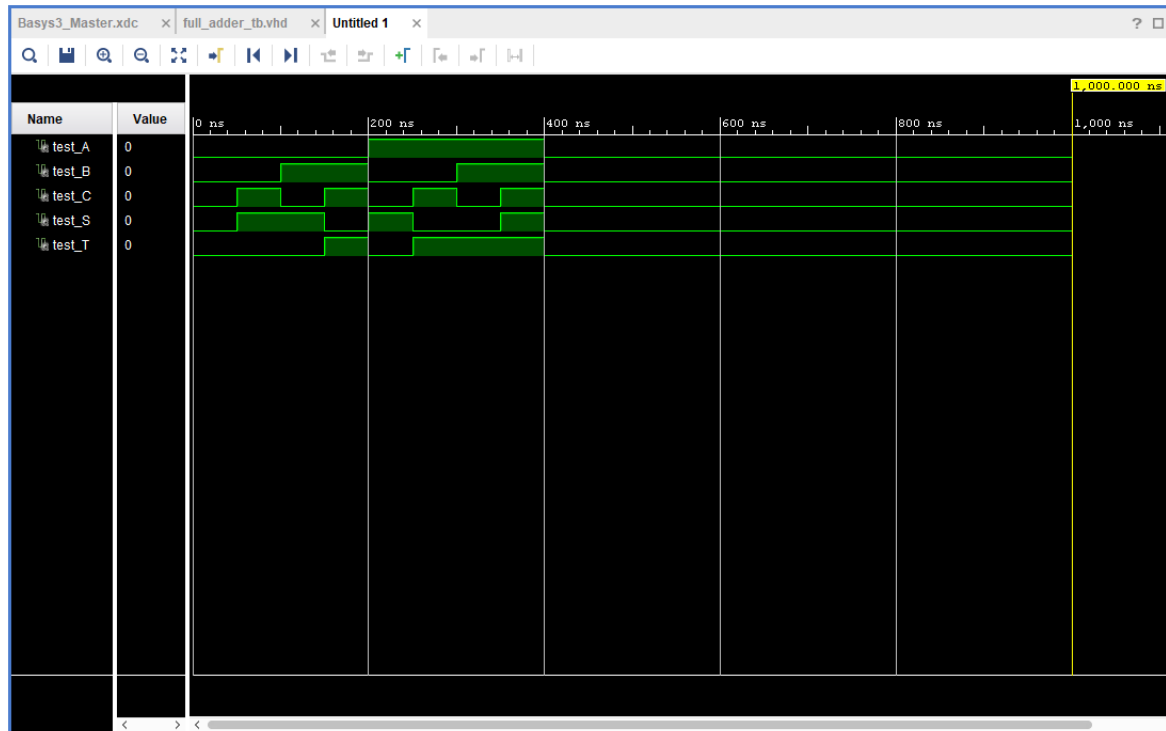

Figure 23 Test bench driven simulation
4. Proceed by clicking on “Run Simulation” under the “Flow Navigator” window and selecting “Run behavioral simulation”. The simulation should now compile and you should be presented with the Vivado simulation view and the waveform generated from the test bench as seen in Figure 23.